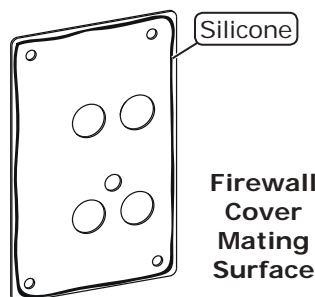

Figure 4
4. Apply a bead of silicone around the mating surface of the firewall cover, and install it using (4) OEM bolts (See Figure 4 and Photo 83, below). **NOTE: After tightening the bolts, add more silicone around the edge of the firewall cover.**